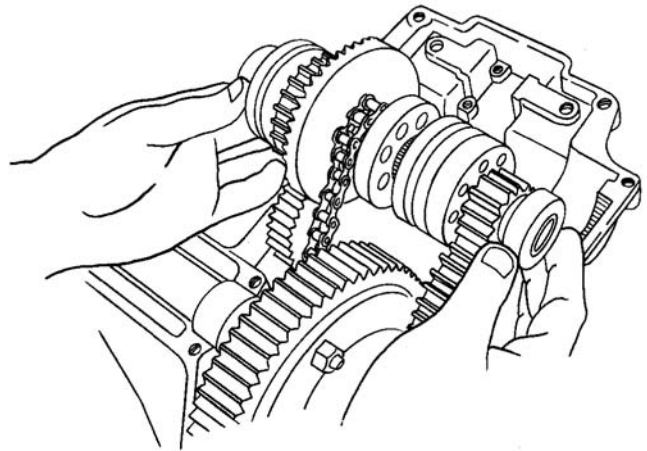

Figure 5-55. Installing Gear Cluster and Bearings
3. Reinstall gear cluster and bearings onto drive shaft without shims and slide into housing. See Figure 5-55.